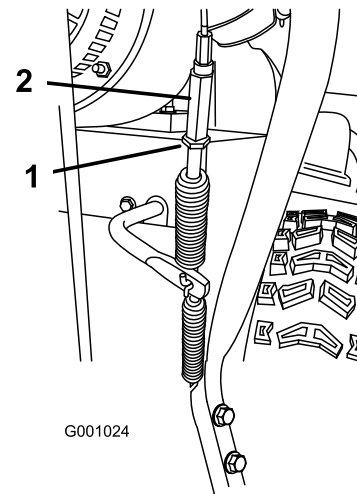

Figure 48
- Loosen the jam nut (Figure 48).
- Loosen or tighten the turnbuckle that adjusts the tension on the cable (Figure 48).